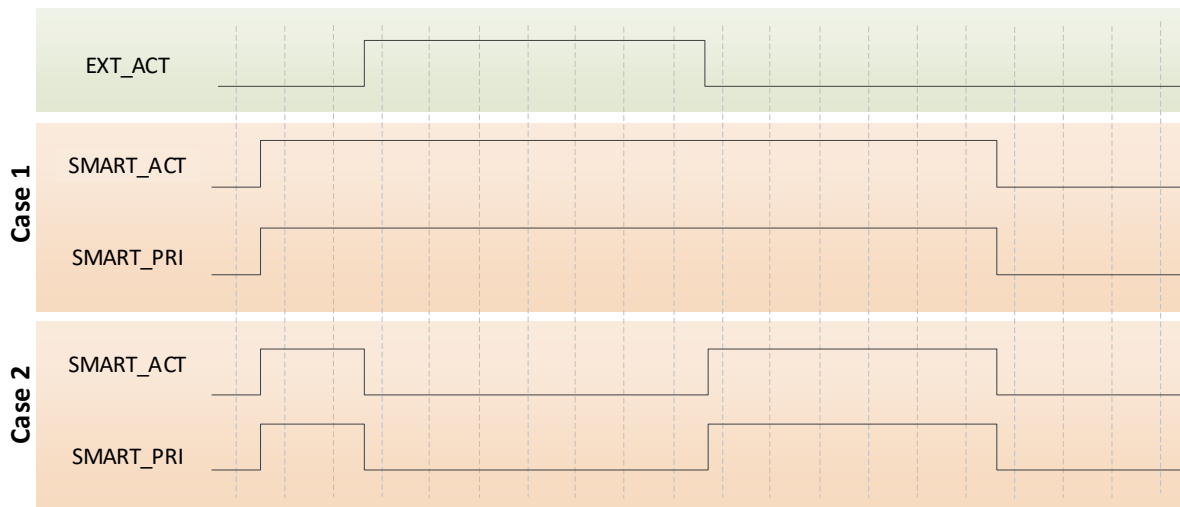

Figure 37: Coexistence Signaling Cases
- SMART_ACT: This is an output from the DA1470x and when asserted it designates that the DA1470x is transmitting or receiving hence an external 2.4 GHz device should be aware of the radio activity. The exact timing of the assertion of this signal is depicted in Figure 37